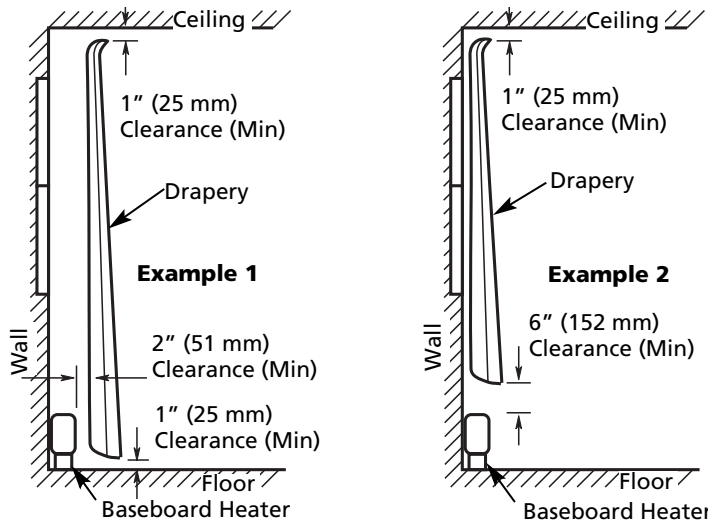

Figure 2 - Positioning Drapery Near Heater
**⚠ CAUTION** *Certain fabrics discolor in time from indirect sunlight and normal room temperature - mostly organic and synthetic material. They will discolor more rapidly when exposed to direct sunlight and warm currents. Hang drapes to provide minimum of 2 inches (51 mm) air space between heater front and nearest drape fold as shown on page 2 in example 1, Figure 2, or 6 inches (152 mm) air space between top of heater and bottom of drapes as shown in example 2, Figure 2. Allow minimum clearance of 1 inch (25 mm) from drapes to ceiling and to top of floor covering to permit air circulation.*